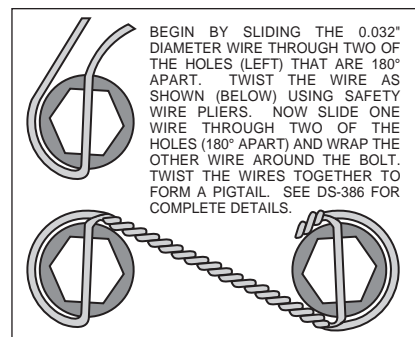

Figure 8. Safety Wire Diagram
- With the larger I.D. side of the rotor (4) facing away from the hat (3), bolt rotor (4) to hat (3) through the backside of the rotor using washers (5) and bolts (6). Torque bolts (6) in an alternating sequence to 103 **in-lb**. Safety wire bolts (6) using standard 0.032 inch diameter stainless steel safety wire as shown in Figure 8. Please refer to Wilwood's data sheet DS-386 (available at www.wilwood.com/Pdf/DataSheets/ds386.pdf) for complete safety wire installation instructions.